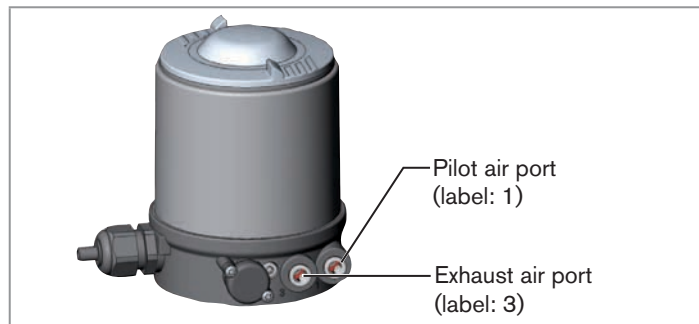

Fig. 9: Pneumatic Connection
- Connect the control medium to the pilot air port (1) (3 – 7 bar; instrument air, free of oil, water and dust).
- Attach the exhaust airline or a silencer to the exhaust air port (3) (see "Fig. 9: Pneumatic Connection").